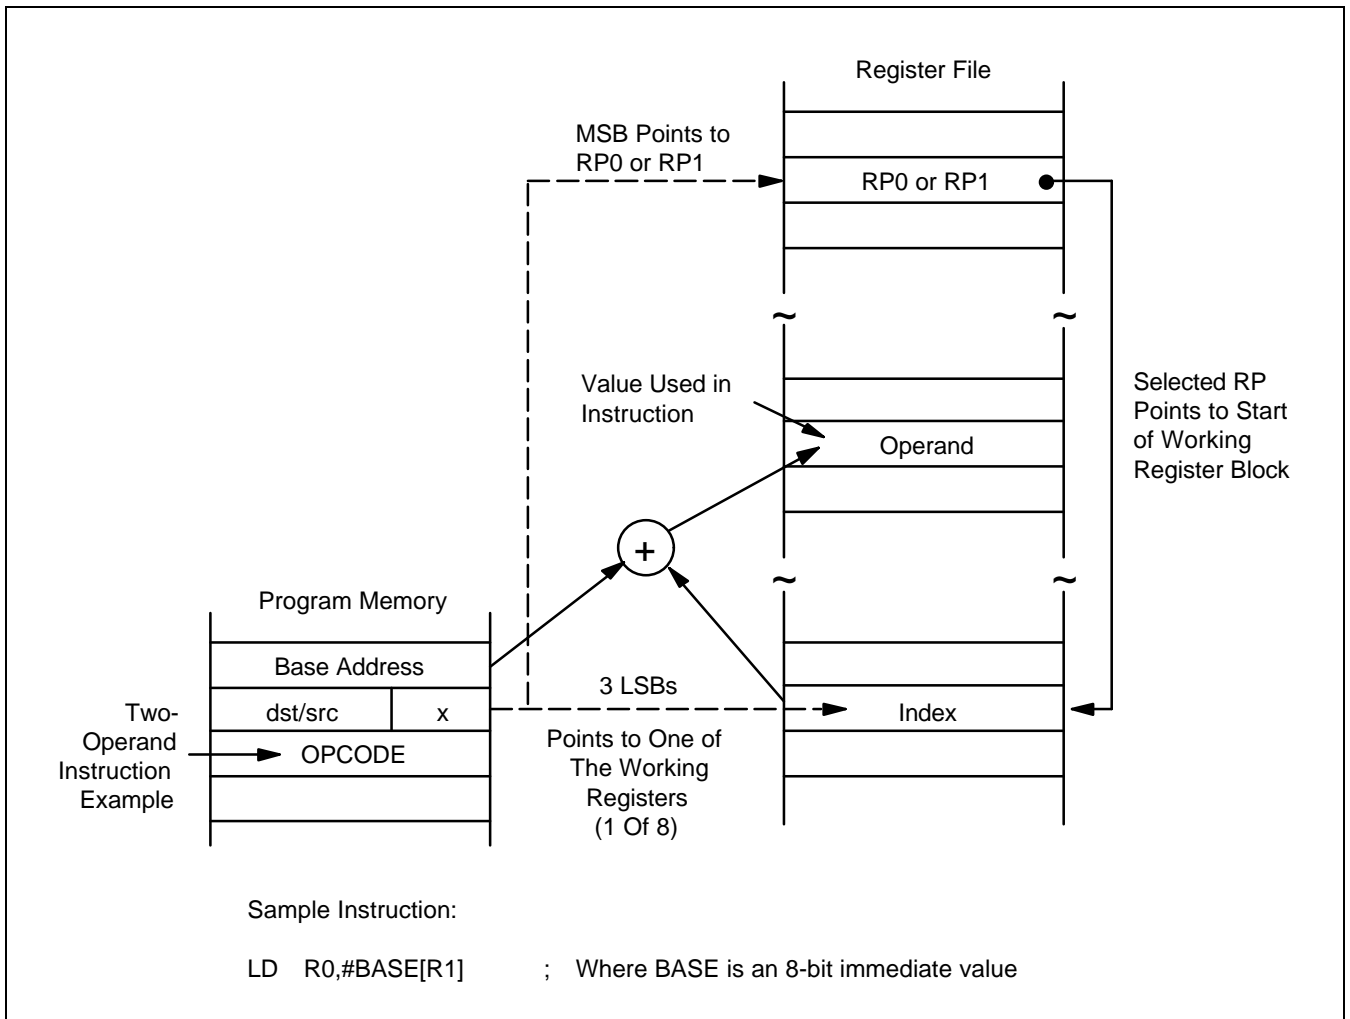

Figure 3-7. Indexed Addressing to Register File
Indexed (X) addressing mode adds an offset value to a base address during an instruction execution in order to calculate the effective operand address (see Figure 3-7). You can use Indexed addressing mode to access locations in the internal register file or in external memory (if implemented). You cannot, however, access locations C0H–FFH in set 1 using Indexed addressing.